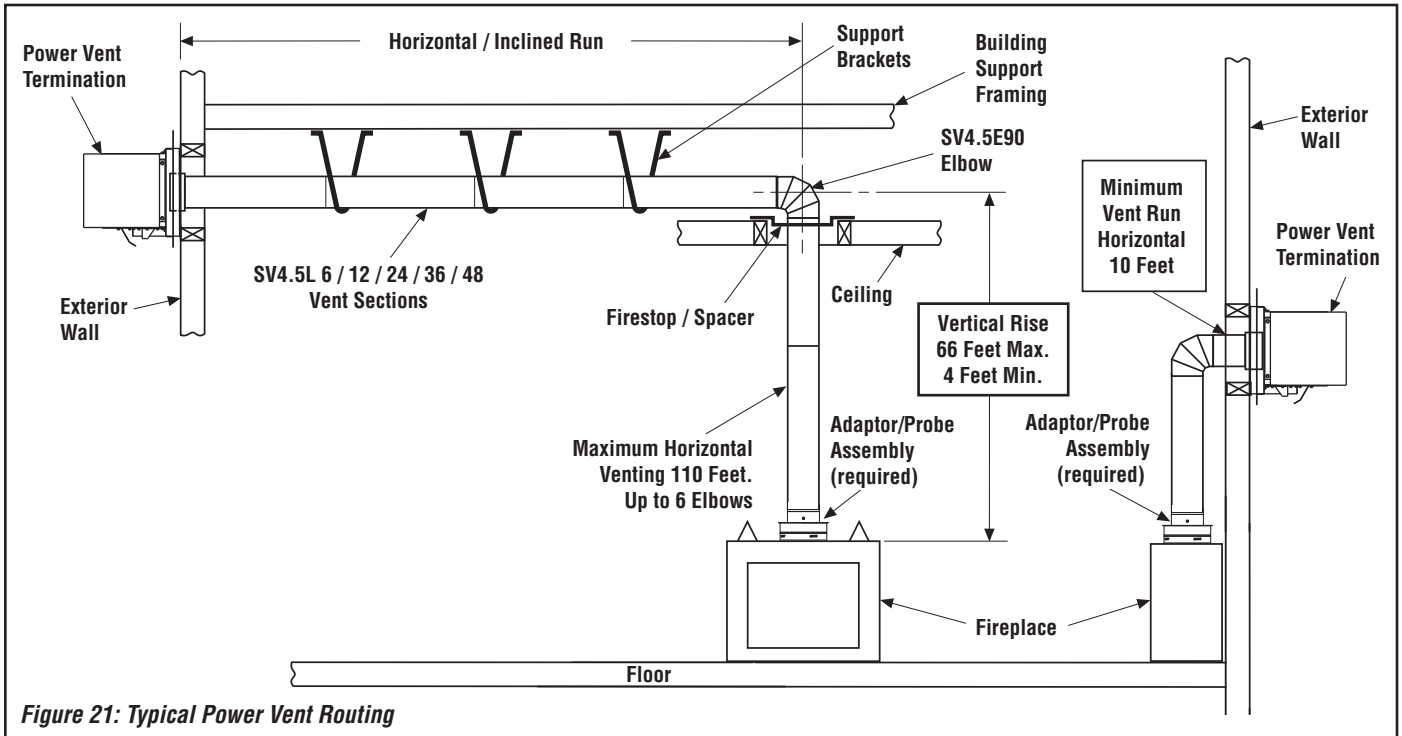
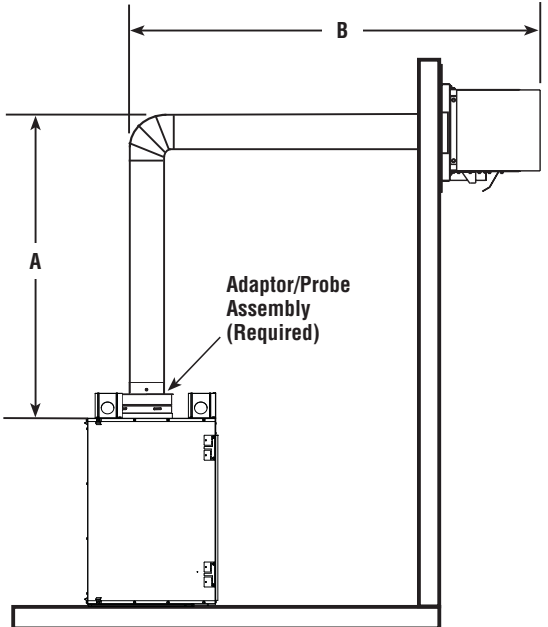

Figure 21: Typical Power Vent Routing
Figure 22
C. Attach vent components to each other. Other vent sections may be added to the previously installed section in accordance with the requirements shown in *Figures 21 and 22 on Page 17*.
G. Continue installation of horizontal/inclined sections. Continue with the installation of the straight vent sections in horizontal/inclined run as described in **Step C**. Install support straps every 3' (914 mm) along horizontal/inclined vent runs using conventional plumber's tape (*see Page 17, Figure 21*).
See **Figures 21 and 22 on Page 17** illustrating the various horizontal venting configurations that are possible for use with these appliances. The table in **Figure 22 on Page 17** shows each system's minimum and maximum vertical and horizontal length values that can be used to design and install the vent components in a variety of applications.
See **Figure 21 on Page 17**.